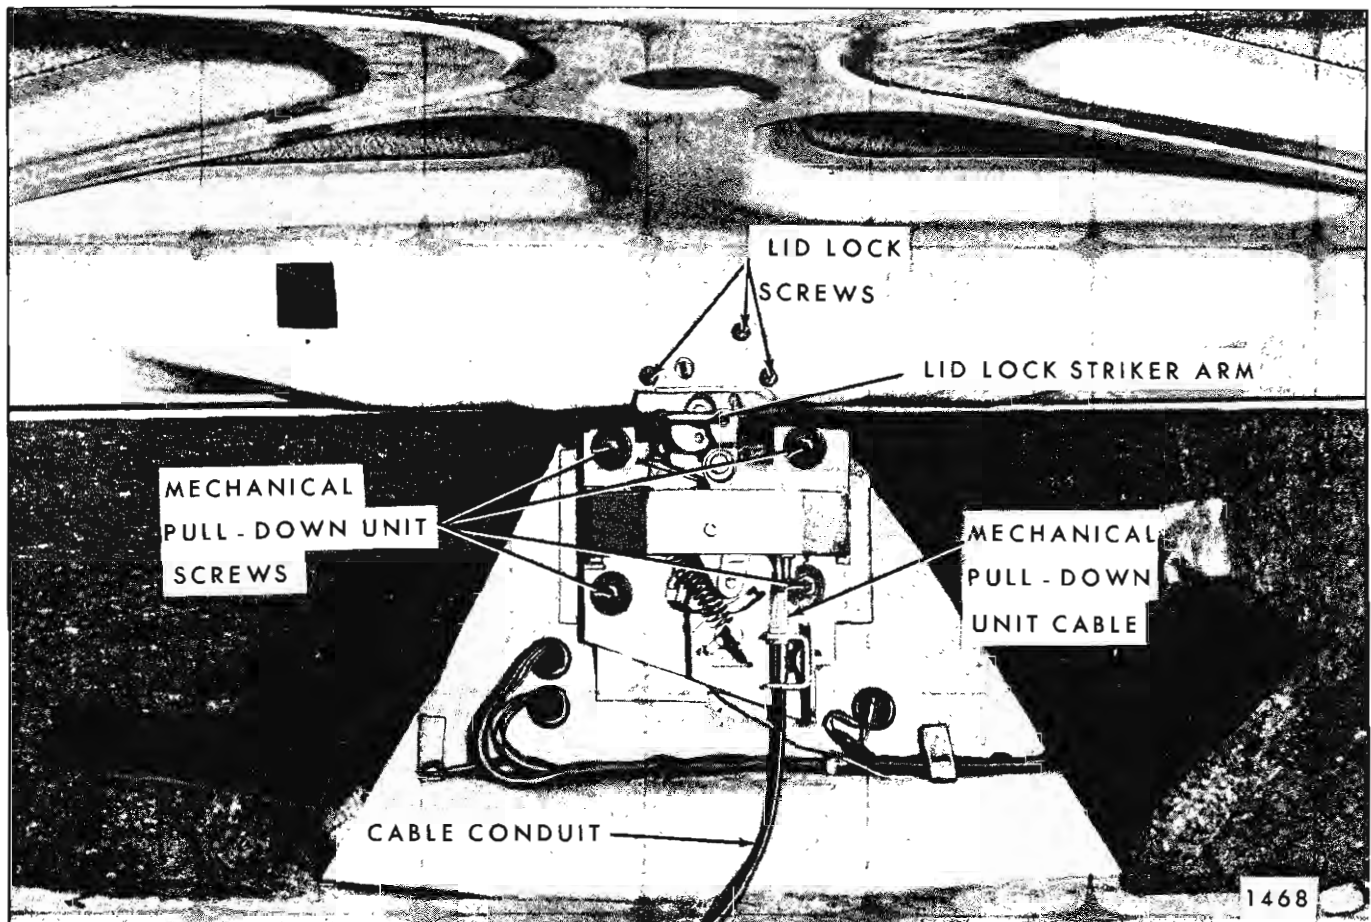

Fig. 1F20—Rear Compartment Lid Lock and Mechanical Pull-Down Unit
2. Repeat this procedure at other end of cable disengaging clips securing cable to pull-down unit and cable conduit to adjusting bracket (Fig. 1F19) and remove cable from body.